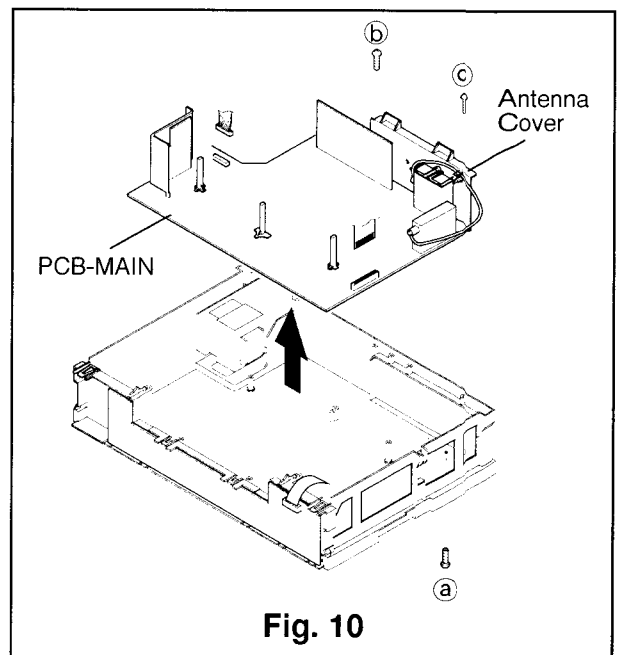

Fig. 10
- ⑥ If necessary to remove PCB-MAIN completely, remove the Assy Deck. (Refer to Para. 5 of the DISASSEMBLY.) Remove all connectors on the PCB-MAIN. Remove one fastening screw (a) on the bottom and two fastening screws (b and c) on the Antenna Cover shown in Fig. 10. Raise the PCB-MAIN upward to remove it.